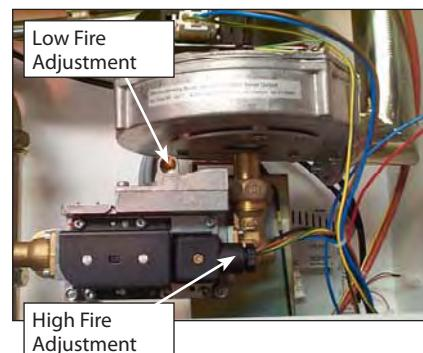

Fig 21.0b
- Check the CO₂ levels recorded against those listed in the adjacent table. If the CO₂ levels are not as listed, adjustments to the gas valve 'High Fire' and/or 'Low Fire' will be required. See fig 21.0b for adjustment locations.
- To adjust the HIGH FIRE setting, use the '+' or ▲ buttons to set the controller to 100% burner output. After the burner has stabilized, adjustments can be made to 'High Fire' adjuster on the gas valve (clockwise to decrease, anti-clockwise to increase the CO₂). After each adjustment, let the burner stabilize for a minute, then check the levels again. See Fig 21.0b. Continue until the CO₂ levels are as listed in the adjacent table.
- n) To adjust the LOW FIRE rate, use the '-' or ▼ buttons to set the controller to 0% burner output. After the burner has stabilized, adjustments can be made to 'Low Fire' adjuster on the gas valve (clockwise to increase, anti-clockwise to decrease the CO₂). After each adjustment, let the burner stabilize for a minute, then check levels again. See Fig 21.0b. Continue until the CO₂ levels are as listed in the table above.